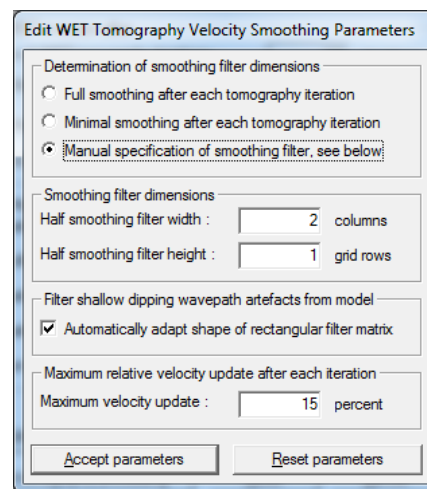

Fig. 16 : click button Edit velocity smoothing, in WET Tomo|Interactive WET tomography...
- set *Half smoothing filter width* to 2 grid columns, *Half smoothing filter height* to 1 grid row (Fig. 16)